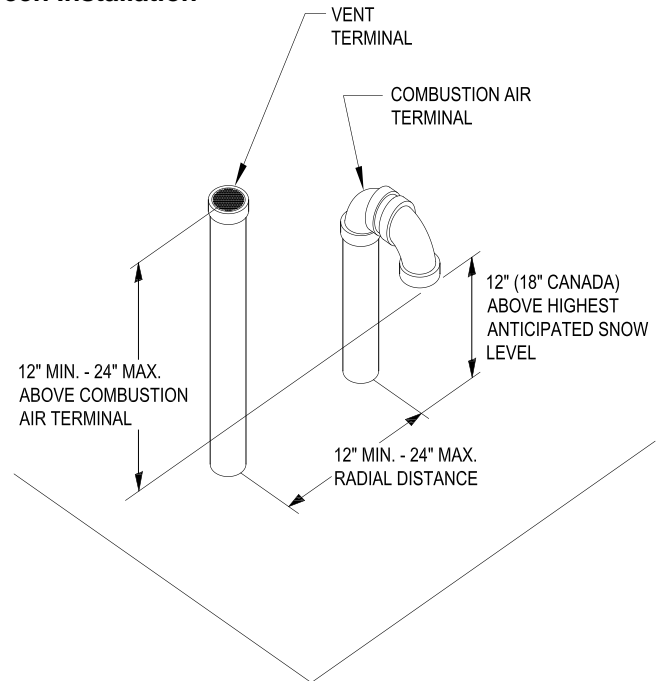

Figure 9: Direct Vent - Vertical Terminations
5. Whenever possible, install vent straight through the roof. Refer to Figures 9 and 10.